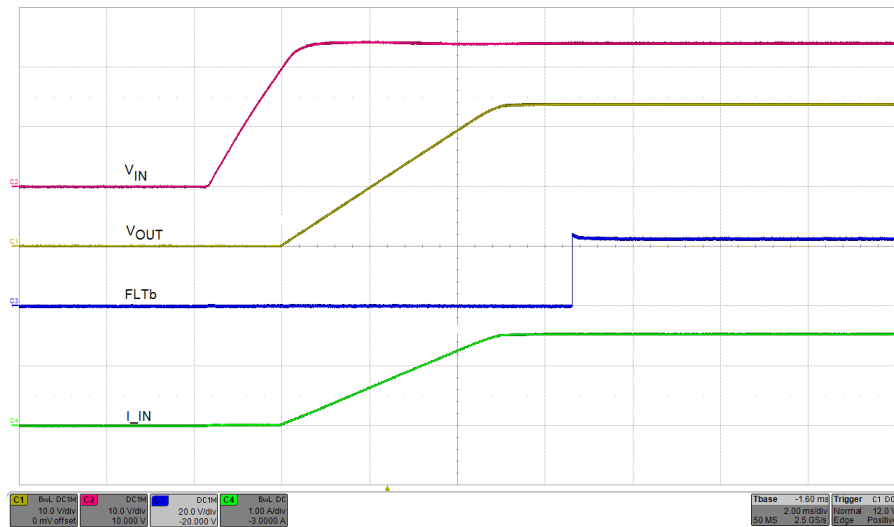

Figure 4-2. Output Voltage Start-Up Waveform
4. Enable the power supply and verify that the output voltage startup waveform is as shown in Figure 4-2.